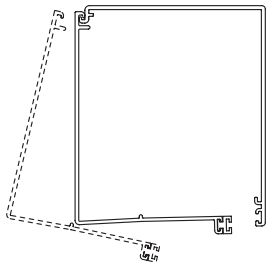

Figure 1
- ① **For All:** Arrange pieces on floor in the general manner they are to be installed.
- ② **For All:** Remove covers from both headboxes (see Fig. 1).